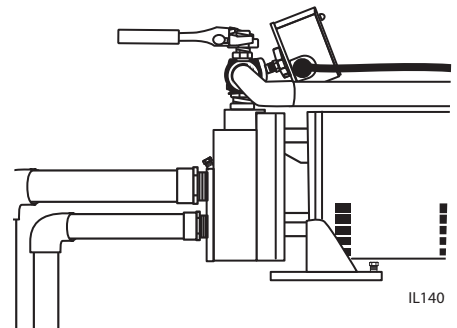

Figure 35 - Unscrew flow control screw
5. With pump operating at high pressure, open two or more faucets and slowly unscrew the flow control screw until maximum flow is obtained. This steady pressure will be minimum operating pressure and should agree with the pressure shown below. The flow control screw diverts the proper amount of water to operate the ejector. (Fig. 35)